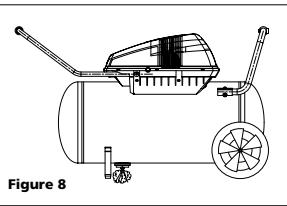

Figure 8
- Assemble the tube to the tank as shown in figure 8. Fasten the tube with 5/16 inch locking bolts. Tighten securely with 5/16 inch locking nuts.
2. Place unit in the horizontal position as shown in Figure 8. With compressor shut off and pressure released: Drain moisture from tank by opening drain cock underneath tank.